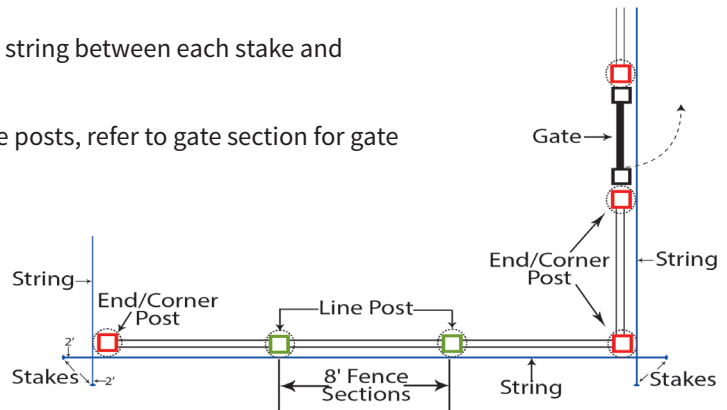

Fig. 1a
2. Drive stakes at each end of property lines. Then stretch a string between each stake and extend the string 2' beyond property line (**Fig. 1a**).